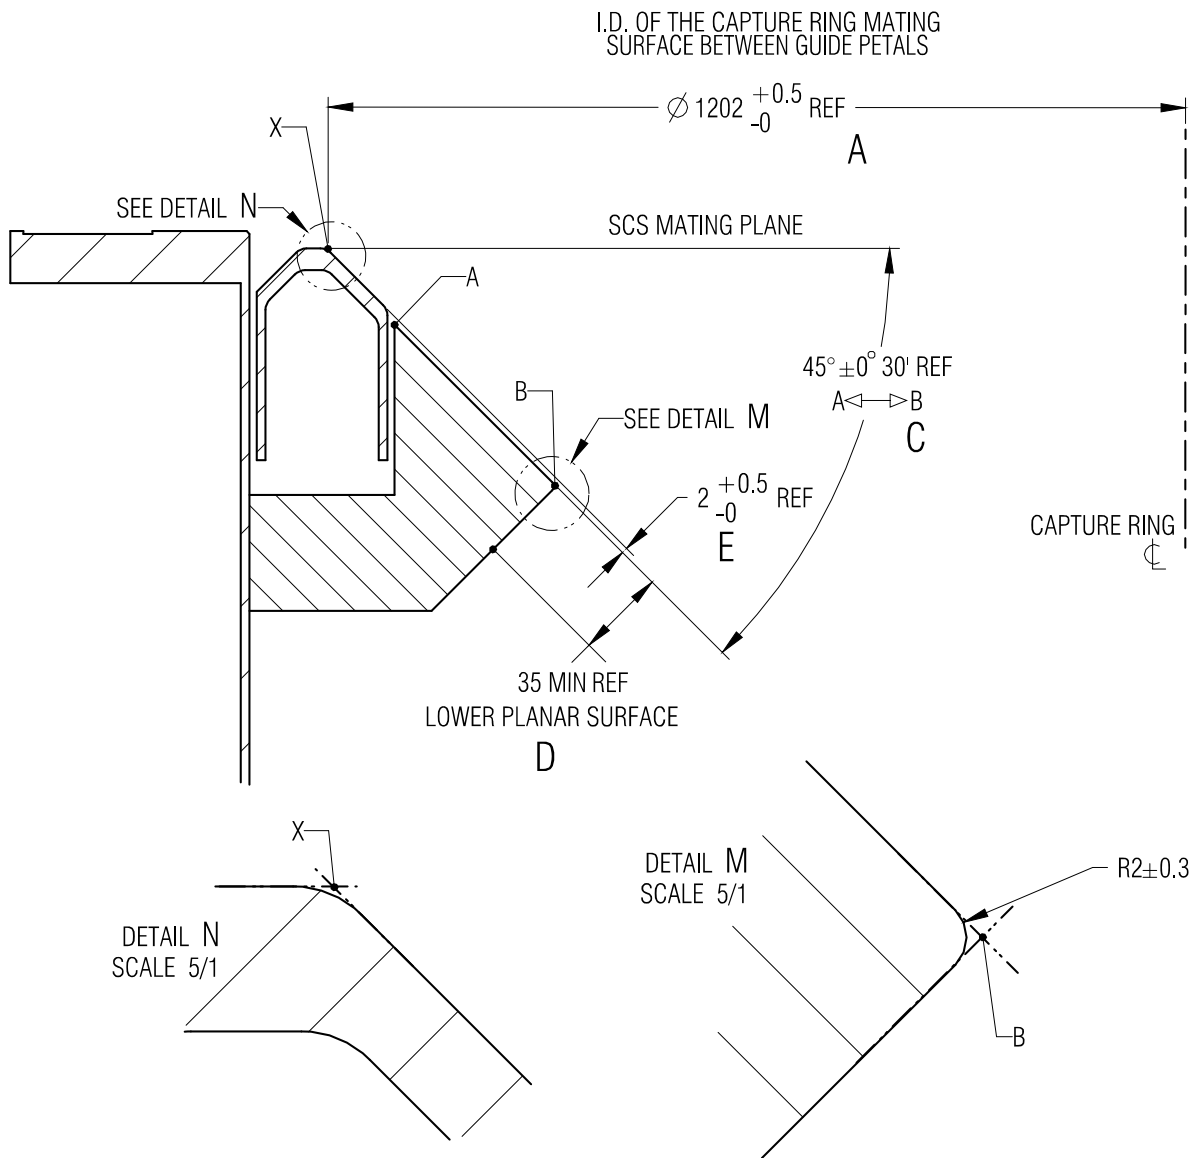

FIGURE 3.2.2.4.1.1-1 MECHANICAL CAPTURE LATCH STRIKER PARAMETER EXPLANATION - PART 1
2. Establish **E** dimension ($2^{+0.5}/-0$) as follows (Refer to Figure 3.2.2.4.1.1-1):